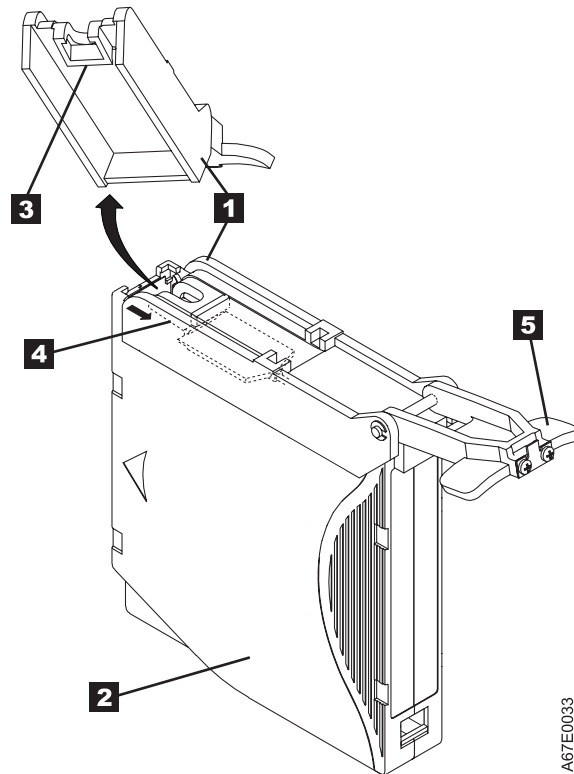

Figure 5-12. Attaching the leader pin attach tool to the cartridge. To hold the cartridge door open, hook the tool into the door and pull the tool back.
1. Attach the leader pin attach tool (**1** in Figure 5-12 on page 5-15) to the cartridge **2** so that the tool's hook **3** latches into the cartridge's door **4**. Pull the tool back to hold the door open, then slide the tool onto the cartridge. Open the tool's pivot arm **5**.